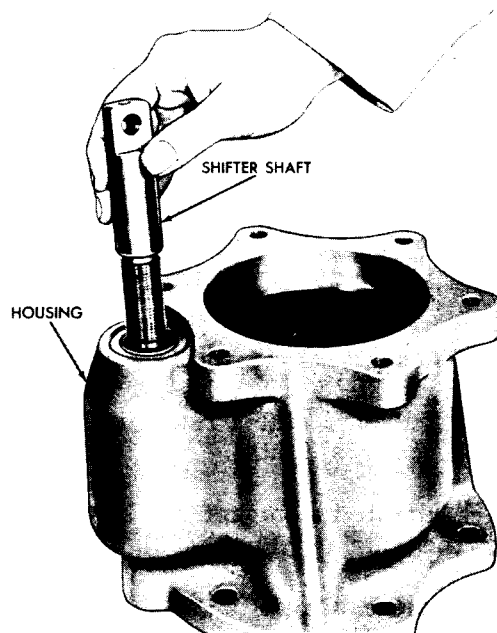

Fig. VI-39. Installing shifter fork shaft^{S3054}
(4) Engage the shifter fork with the groove in the coupling. Install the shifter fork shaft, threading it (clockwise) into the shifter fork until the shifter fork is centered on the threaded portion of the shaft (fig. VI-39).